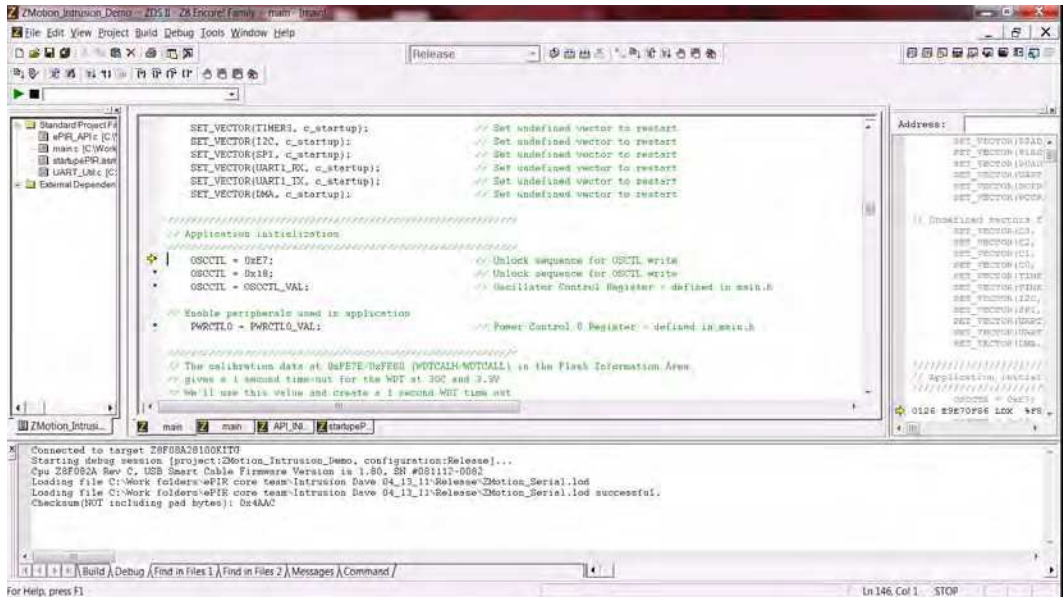

Figure 8. ZDSII's Debug Output Window for the ZMOTION\_Basic project
6. An information notice may appear, indicating that the silicon is not the latest version. This occurrence is normal and is not an issue. Click **OK** to continue. You should see a message in the Debug Output Window indicating that the load was successful, as shown in Figure 8.